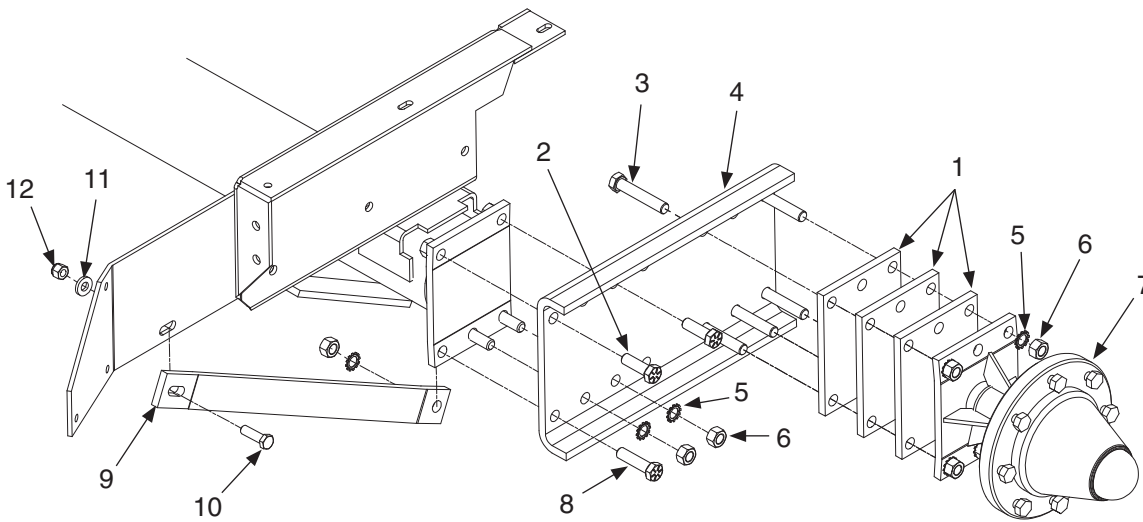

Figure 2-3-1 - Mounting Channel, Brace, Spacer's & Hub
A. Place (2) Item 2 Bolts through the bottom of the axle as shown in Figure 2-3-1.
B. (See Figure 2-3-1) Place (5) Item 3 Bolts through the front of the Mounting Channel. Place (3) Item 1 Spacer Plates and (1) Item 7 Hub and Spindle on the mounting channel. Secure the hub and spacer plates to the mounting channel with 5/8" star washers and nuts. Torque all nuts and bolts as per torque chart on page 2-3-1.
C. Place the Mounting Channel on the axle, then place Item 9, RH Brace as shown in Figure 2-3-1. Torque all nuts and bolts as per torque chart on page 2-3-1.